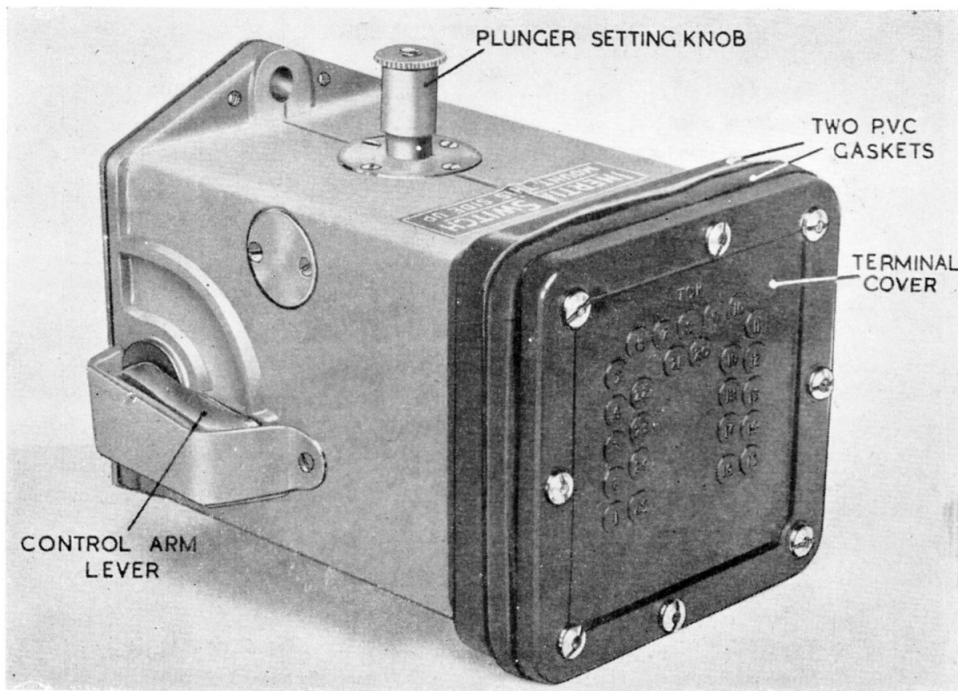

Fig. 1. Inertia switch, Type 3C
2. The basic principle of operation of the four switches is similar; the inertia switch, Type 3C, is illustrated in fig. 1, 2 and 3. The switch contains a pendulum mounted on bearings which allow it to swing in any direction. The weight at the end of the pendulum is shaped like an inverted saucer, and when the switch is set for action a control arm, held by a spring, engages the weight at the deepest point of its concave depression and stops it from swinging.